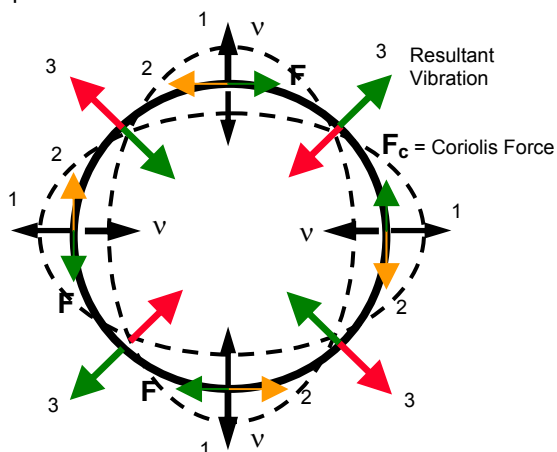

Figure 9
Figure 9 shows the movement of the silicon ring while vibrating:— As the ring oscillates in its natural state the ring moves in the way shown by (1). When the gyro is turned, the Coriolis force acts on the ring as shown by (2). This causes a resultant vibration  $45^\circ$  out of alignment with the primary vibration, as shown by (3). The force required to completely null this resultant vibration is directly proportional to the angular rate.